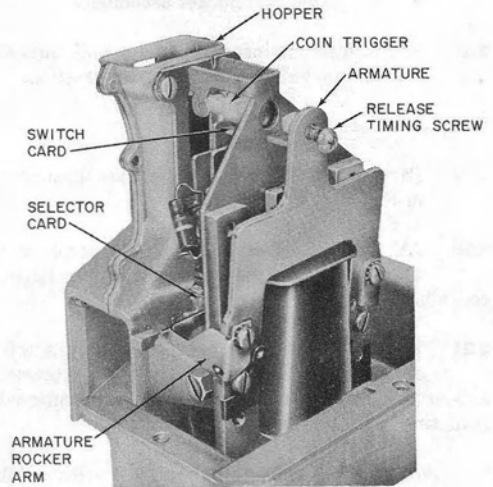

Fig. 16—P-10E683 Mechanism Unit With P-13E961 Coin Relay
- Manual or dial coin first single-coil coin relay (Fig. 16).
**2.36** Most 230-, 233-, and 234-type coin collectors are equipped with a P-13E961 coin relay (Fig. 16) which replaces the P-10E786 coin relay now rated MD. The relays are interchangeable, but most of the components are not.